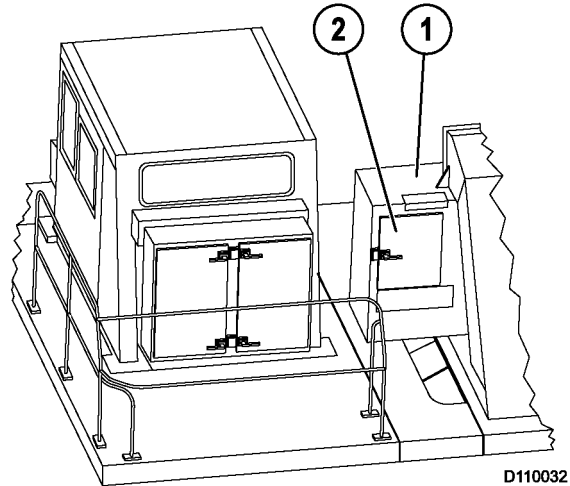

FIGURE 32-16. CONTROL CABINET
Interface module (3, Figure 32-17) is located inside control cabinet (1, Figure 32-16). The interface module is attached inside door (2).